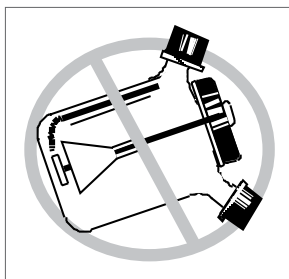

Figure 14. Place spinner flask in an upright position when autoclaving the vessel. Do not lay on its side.
1. After assembly, place the vessel into an autoclave. We recommend that the vessels are autoclaved in an upright position. (Figure 14).